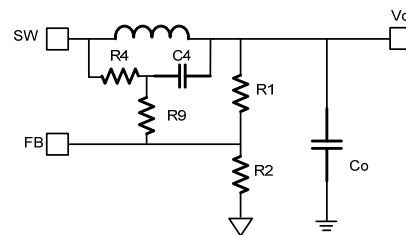

Figure 9: Simplified Circuit with External Ramp
The output voltage is influenced by R4 in addition to the R1 and R2 divider shown in Figure 9. R2 should be chosen reasonably, since a small R2 leads to considerable quiescent current loss while a large R2 makes FB noise-sensitive. Set R2 to be between 5 - 100kΩ. R1 can then be determined with Equation (5):